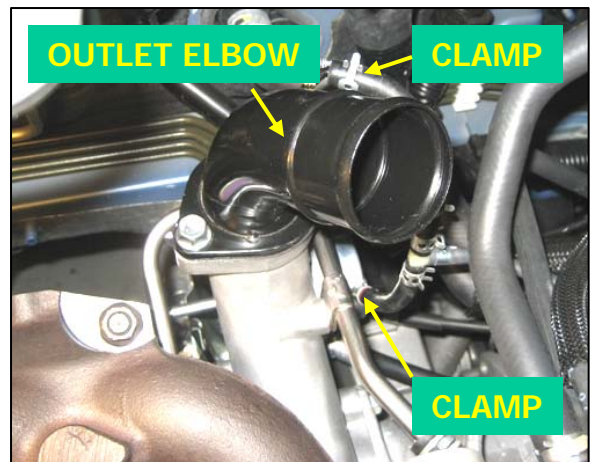

Fig. 10
11. Remove the vacuum / emission hose from the black metal compressor outlet elbow and from the wastegate actuator. Tag this hose for easy identification upon reassembly, and secure the hose out of the way in the engine compartment. These parts will be reused (2 hose clamps, pliers). See figure 10.